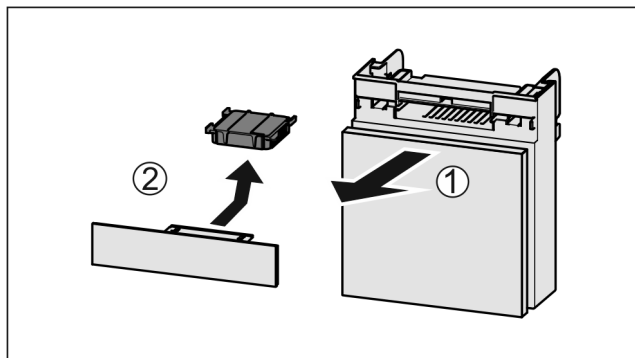

Fig. 81
- ▶ Pull out the compartment Fig. 81 (1).
- ▶ Remove the carbon filter Fig. 81 (2).